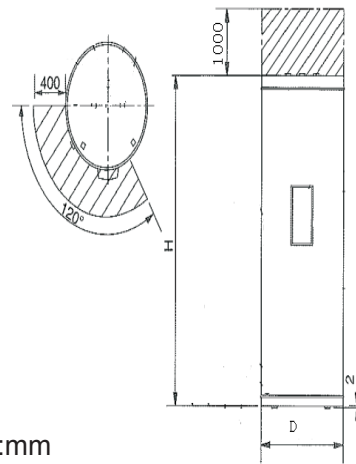

Fig.3.1-2 Maintenance Space in Water Tank
- Water tank is located in a place that is convenient for repair and ensuring electrical box opened. Refer to Fig.3.1-2.